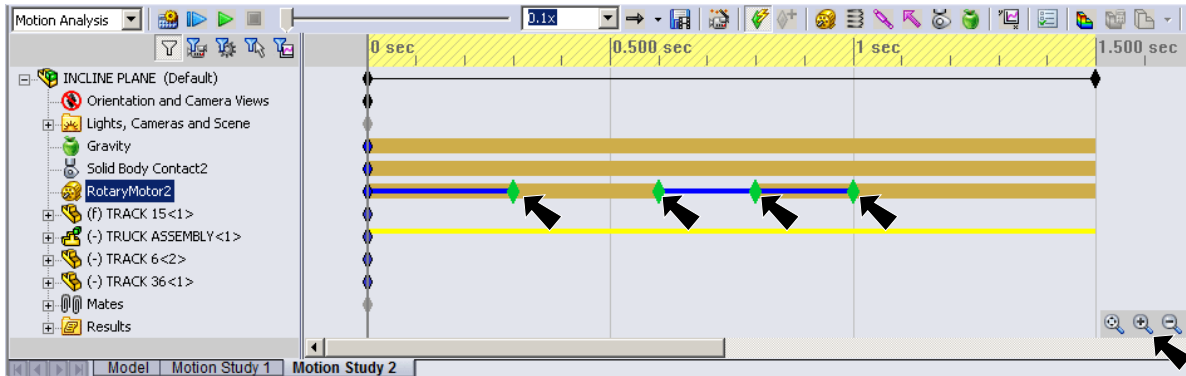

Fig. 4
Step 2. Click **Zoom in**  in lower right corner of the Motion Manager to increase the Time Bar with finer time increments, **Fig. 4**.
Step 3. Delete all the Key Points  in the RotaryMotor2 Timeline. To delete Key Points, **Ctrl click** all the Key Points  in the RotaryMotor2 Timeline and press **Delete** key on keyboard, **Fig. 4**.